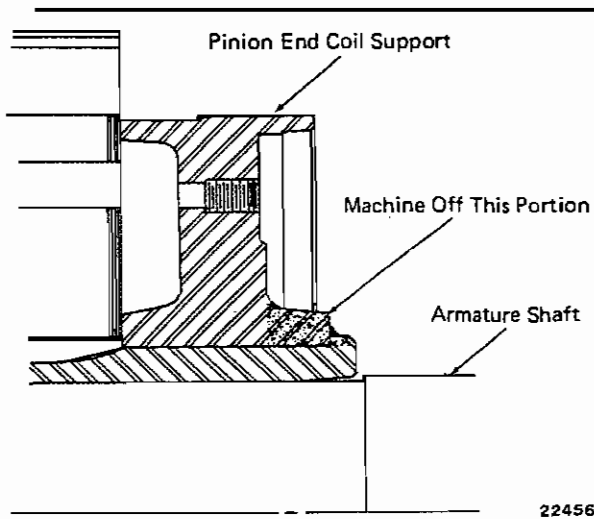

Fig. 10 - Pinion End Coil Support Removal
1. Place armature in a lathe and machine off weld and portion of coil support hub as shown in Fig. 10.